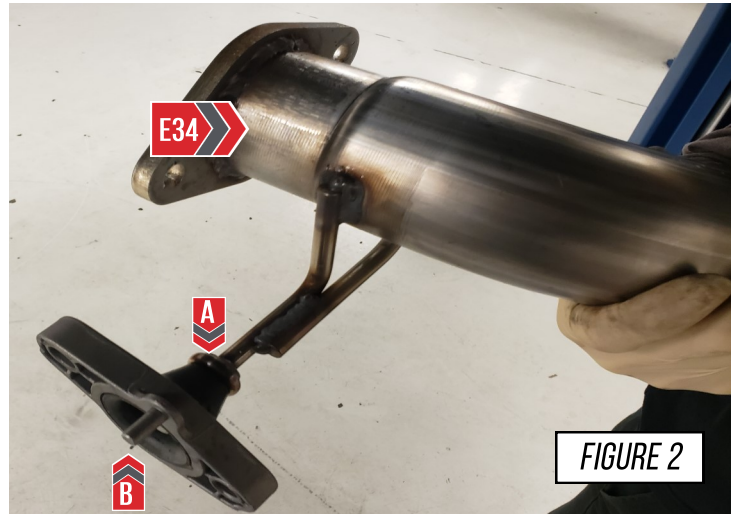

FIGURE 2
Begin your install by gathering your AWE resonated inlet section (**E34**), and the OE front hanger as shown in **Figure 2**.
Insert the OE hanger on to your AWE hanger barb, as shown at (**A**) in **Figure 2**.
**Note:** The pin on the OE hanger, shown at (**B**) in **Figure 2** should be on the top side of the OE hanger.